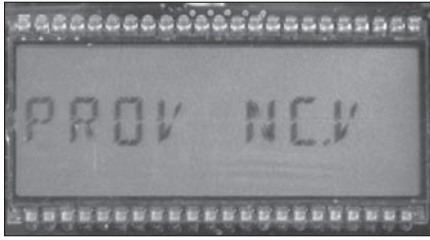

Figure 6 - LCD screen displays **PROV NC.V**
- A. Swipe the magnet across the words **ROOTS® ES3 Index** until the screen displays **PROV NC.V** (Figure 6), and then stop swiping.